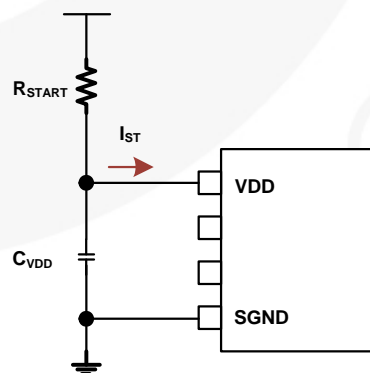

Figure 35. Equivalent Circuit During Startup
Figure 35 shows the equivalent circuit for estimating t_{start} . From the circuit analysis, V_{DD} variation versus time is given by:
4. Refer to the Design Guide startup circuit in Figure 35. Due to reducing power loss on the startup resistor (R1) for high-efficiency systems, it is possible to use a higher resistor value than recommended. In this case, the IC doesn't reliably keep SD (shutdown) state for protection. Carefully select the startup resistor (R1) or use the recommended value (470k) to sufficiently supply shutdown current (I_{SD}) and startup current (I_{ST}).